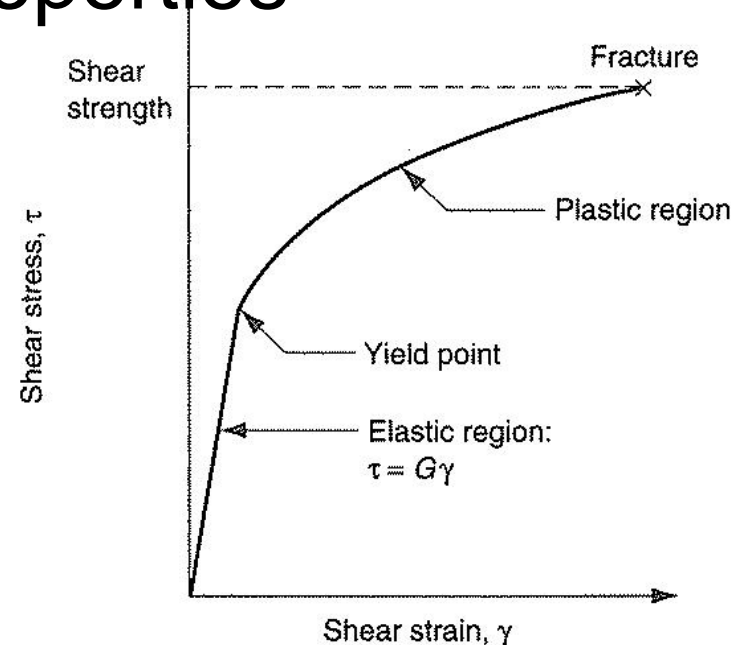

Fig. 3-14: A typical shear stress-strain curve from a torsion test.
- A typical shear stress-strain curve is shown in Fig. 3-14.